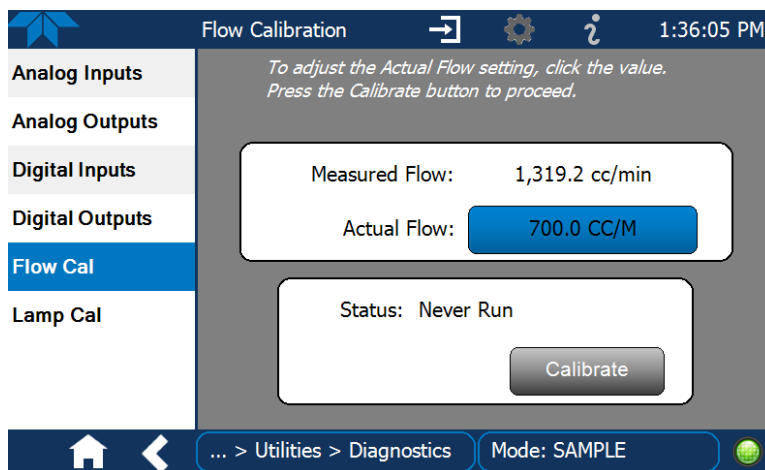

Figure 5-10. Flow Calibration Menu
1. In the Utilities>Diagnostics>Flow Cal menu (Figure 5-10), edit the Actual Flow value by inputting the reading from the external flow meter obtained in the corresponding check of the flow to be calibrated.